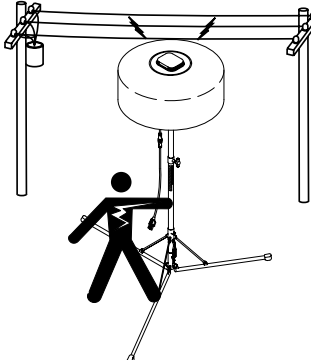

**Figure 11. Securing Power Cord**
4. Attach the S-type hook (Figure 11) on the AC power cable onto the washer-eyelet located on the bottom plate of the light assembly.